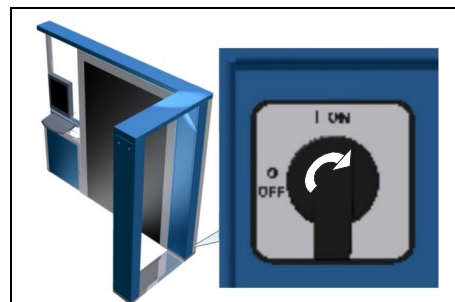

Fig. 6: Main switch
- ▷ Turn the main switch of the eqo system clockwise into the ON position (see Fig. 6). The unit is now ready to switch-on.